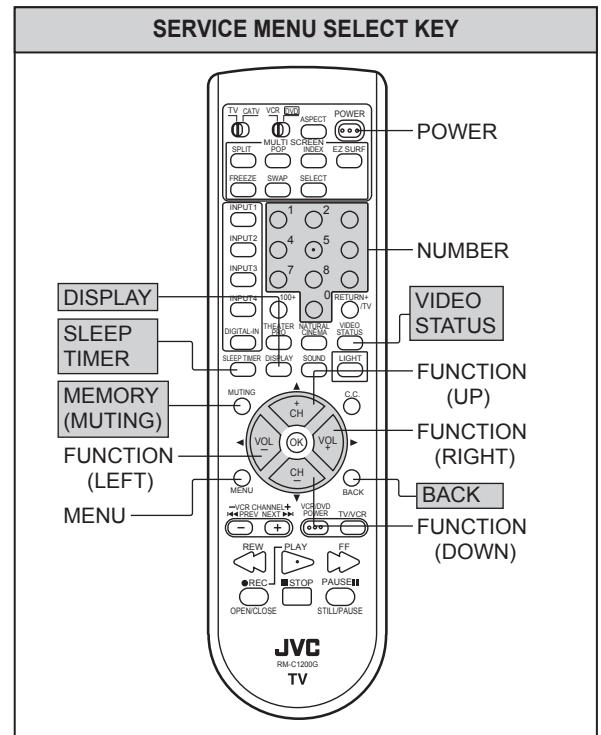

Fig.2
(4) SERVICE MENU setting
a) Press [SLEEP TIMER] key and, while the indication of **SLEEP TIMER 0 MIN** is being displayed, press [DISPLAY] key and [VIDEO STATUS] key on the remote control unit (Fig.2) simultaneously.